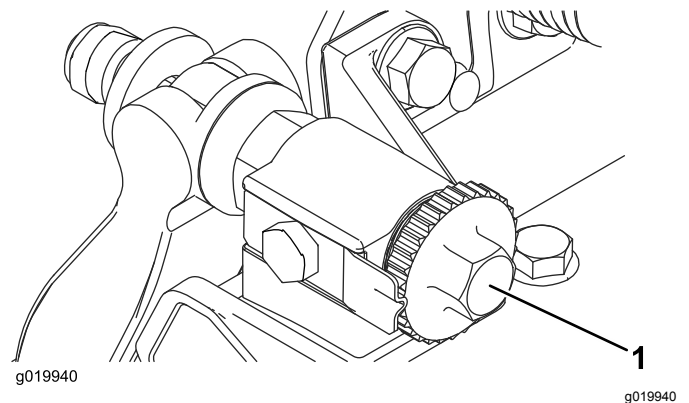

Figure 29
1. Loosen the reel-to-bedknife contact by turning the bedknife adjusting knobs (Figure 29) counterclockwise until no contact exists.